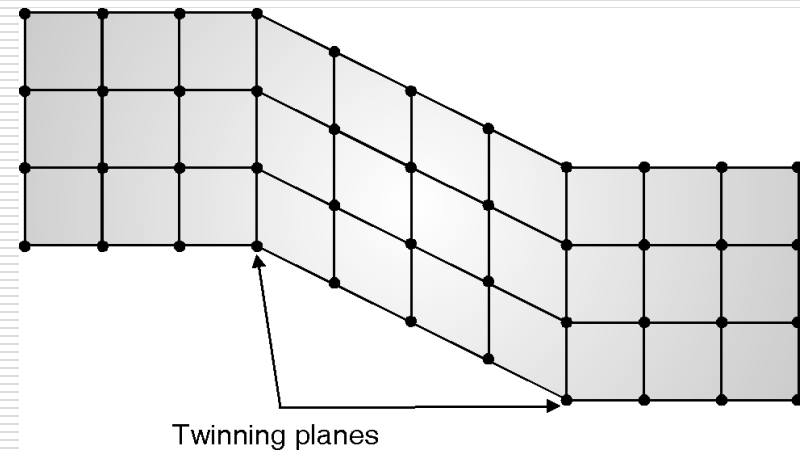

Fig. No.18 : Twin bounda
- When the boundaries in which the arrangement of atoms on one side of the boundary is a mirror image of the arrangement of atoms of the another side as shown in Fig. No.18